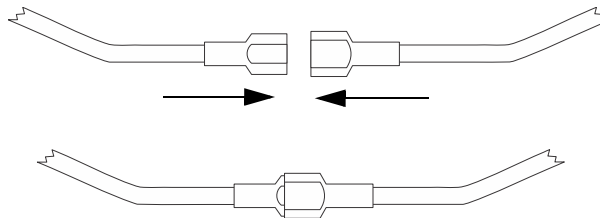

Figure 4.8 Splicing Control Panel Battery Cable to RBB Battery Cable Extenders
2. Connect the main control panel battery cables to the battery cable extenders as shown in Figure 4.8.